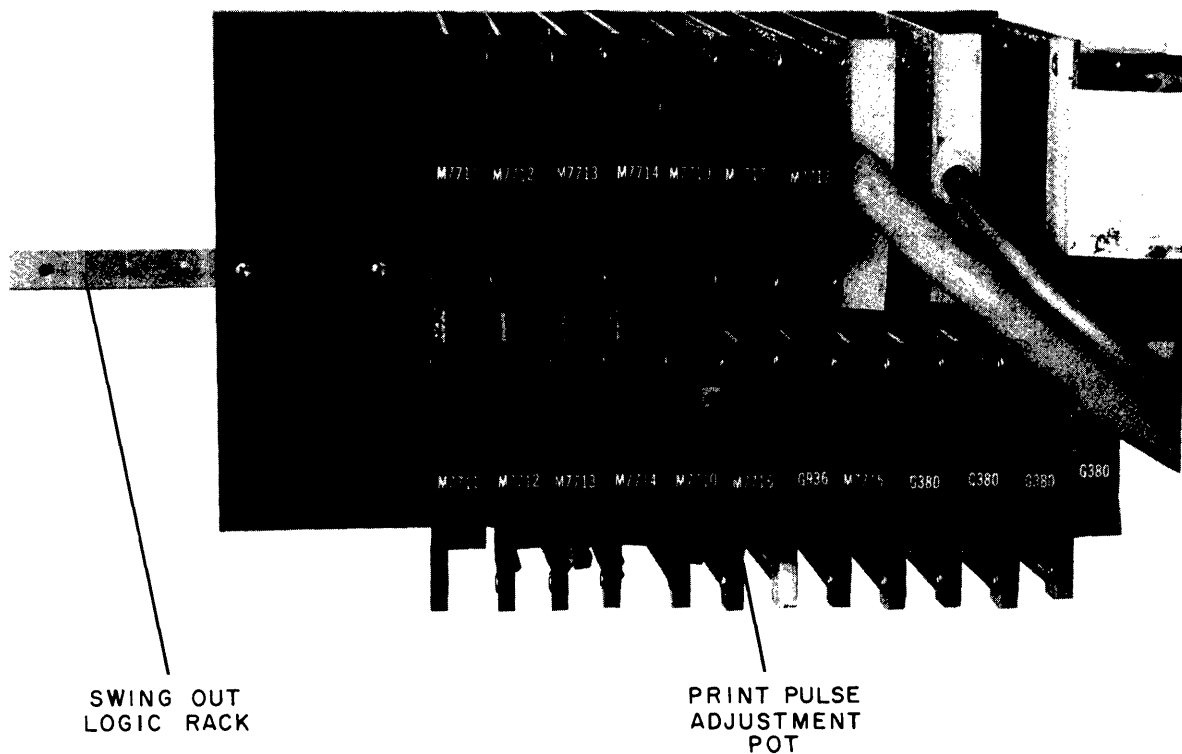

Figure 5-5 Print Pulse Micropot
2. Using the oscilloscope and probe, look at the print pulse on B8N2. The positive pulses should measure $650 \mu s$. If not, adjust R36 on M7710 (10K micropot) available from the module side of the rack (Figure 5-5).